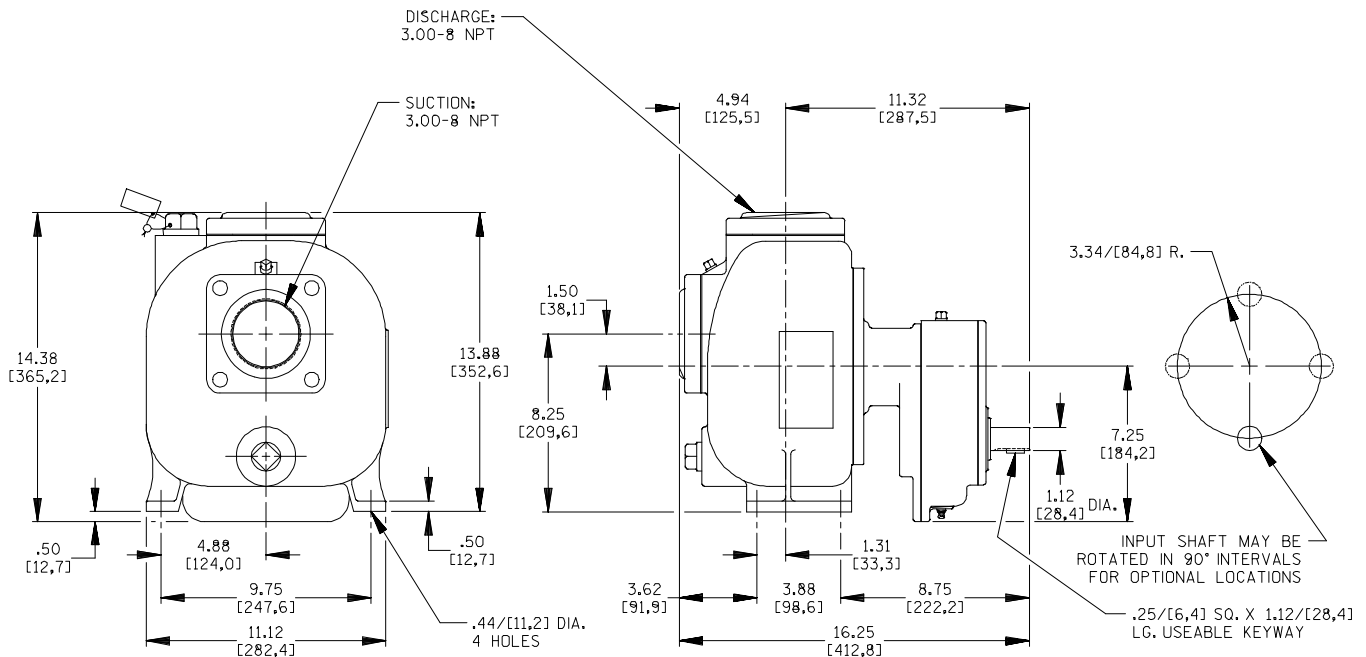

Figure 1. Pump Model 03H1-GL
See Figure 1 for the approximate physical dimensions of this pump.
*If the gearbox is rotated out of the standard position shown in Figure 1, the oil fill and drain plugs must be relocated. The oil vent must be relocated to the highest port. Consult the factory for correct positioning of the fill plug to provide for proper lubrication of the gearbox.*